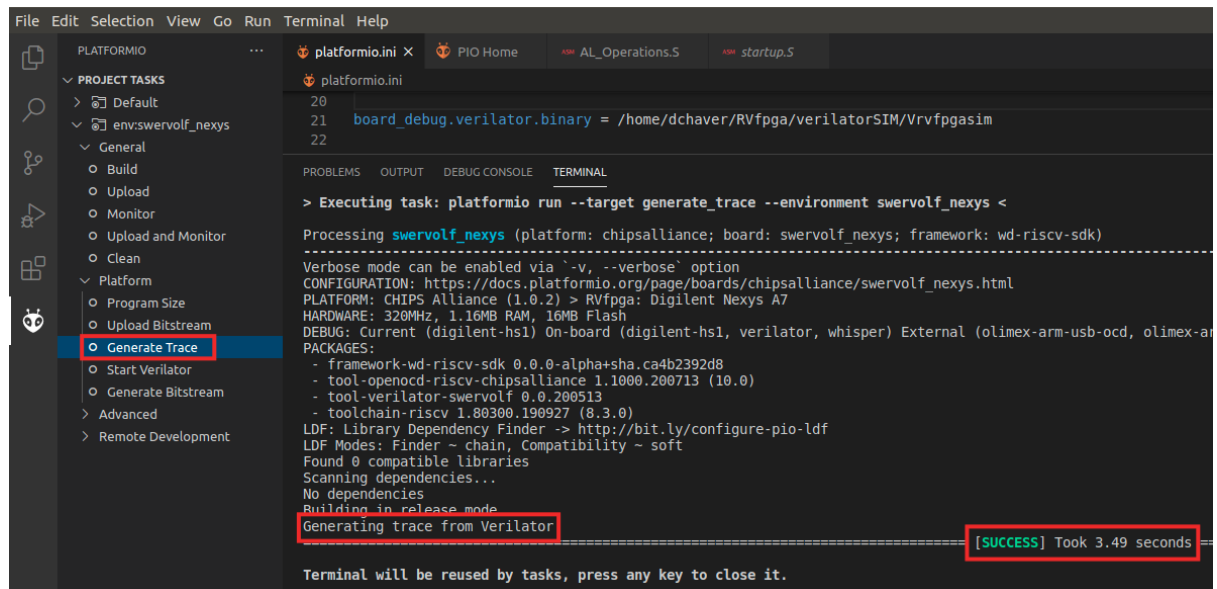

Figure 83. Generating trace from Verilator
- Run the simulation by clicking on the PlatformIO icon in the left menu ribbon , then expand Project Tasks → env:swervolf_nexys → Platform and click on Generate Trace, as shown in Figure 83.